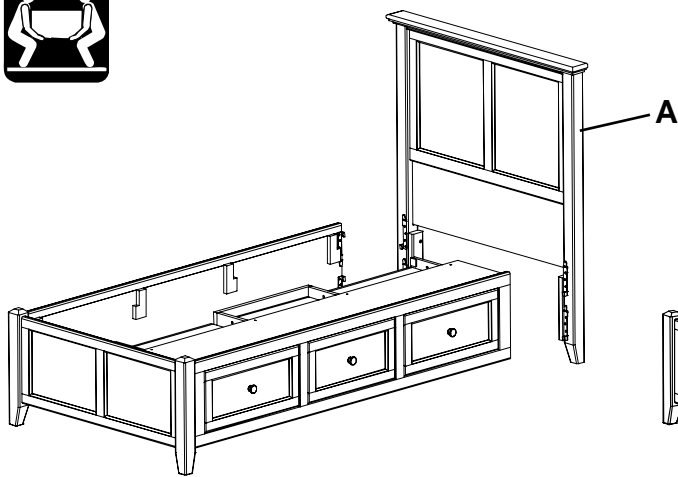

Fig. 4
4. Move your Twin Headboard (A) or Twin Bookcase Headboard (E) into position. Make sure the drawers are opening on the side you desire. If you are satisfied, align and slide the brackets of the Bed Assembly on to the brackets of the Headboard (A or E). If you are not satisfied with the drawer position, remove the Footboard (YB) from the Bed Assembly and install at the opposite end. Attach the Headboard (A or E). See Figures 4 or 4a.